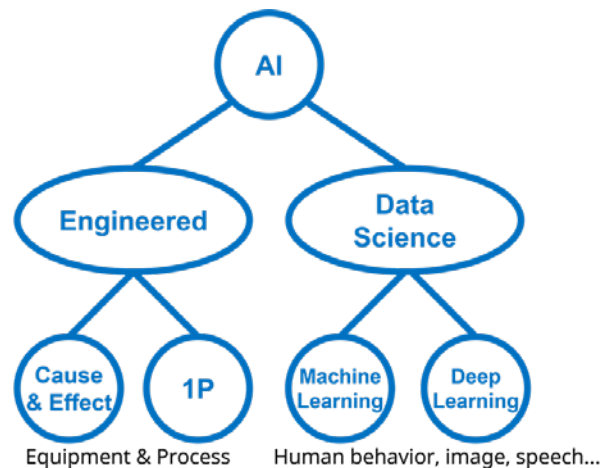

Figure 3. There are many forms of AI, only some of which are ideal for manufacturing.
always the best form of analytics for all use cases (Figure 3). Many top-performing plants instead employ engineered analytics with mechanistic AI for equipment and processes with well-known causes and effects, and first principles. Mechanistic AI is deterministic; it is robust and it is verifiable. Deep learning (DL), on the other hand, is used in non-process use-cases like image and speech recognition.